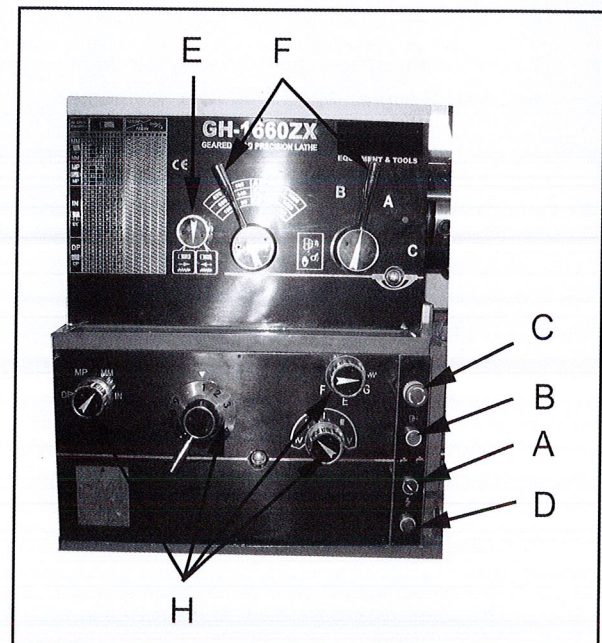

Fig.12
Jog Switch: (B, Fig.12) Quickly depress and release to rotate the spindle.
2. **Headstock Gear Change Levers:** (F, Fig.12) Located on front top portion of headstock. Move levers left, or right to desired spindle speed.
3. **Leadscrew/Feed Rod Directional Lever:** (E, Fig.12) Located on front of headstock at left and lower section. Changing knob changes direction of feed. (**Caution:** Do not move knob while machine is running.)